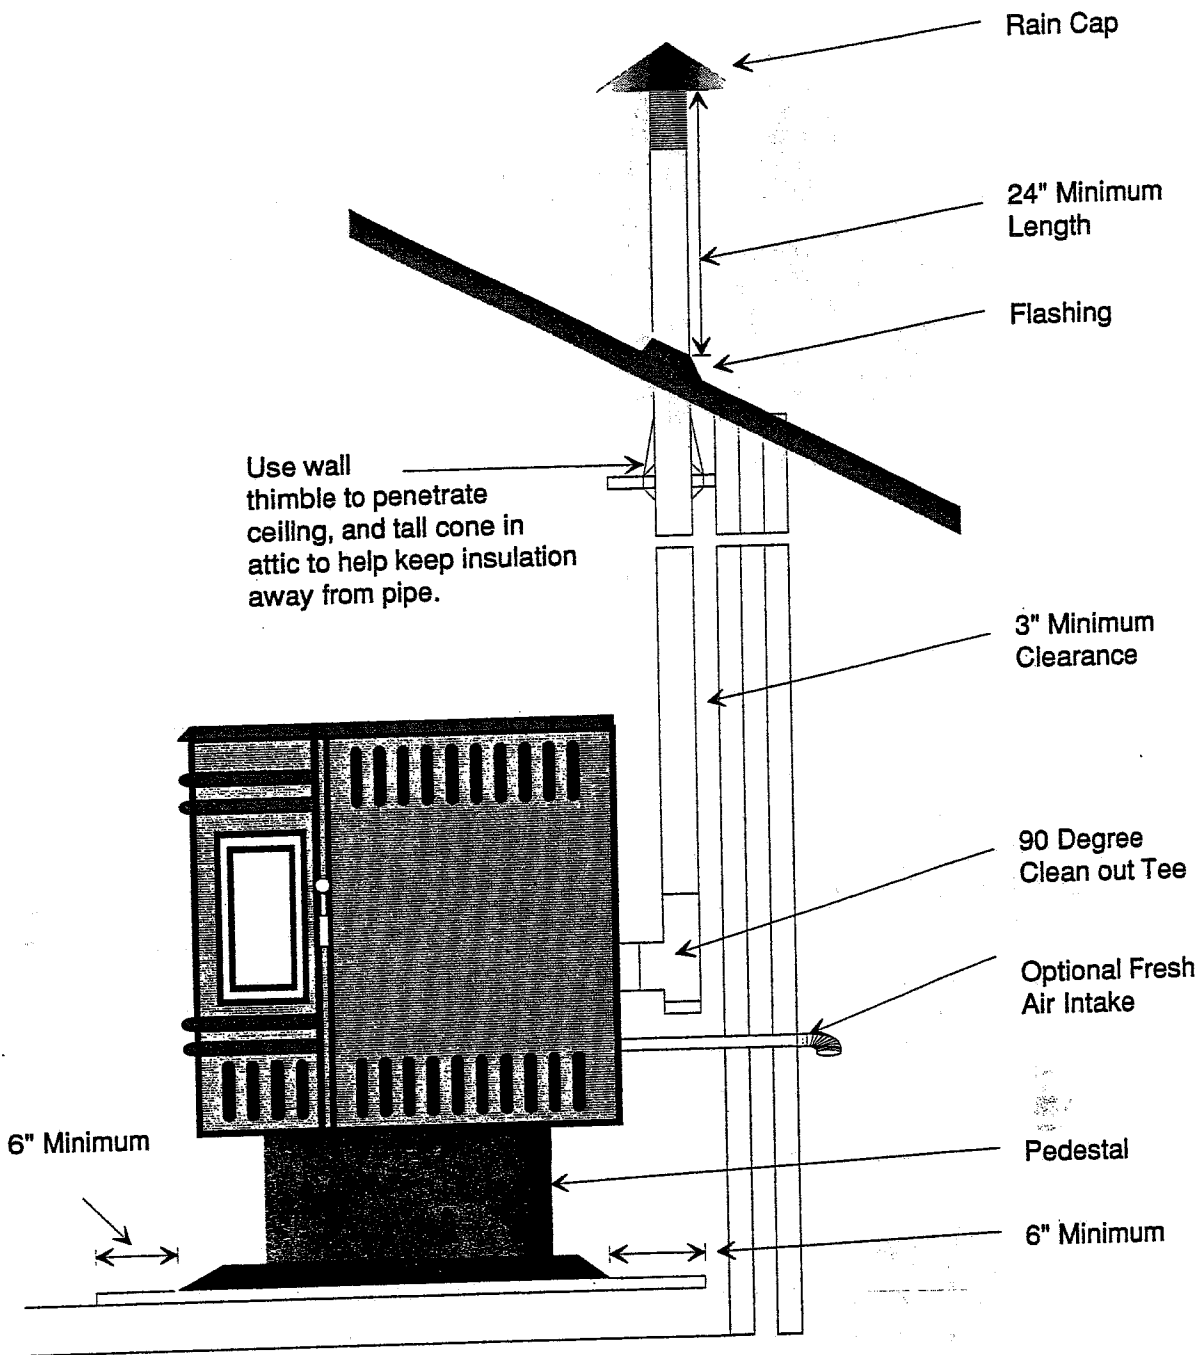

Figure 20
- A 3" single-wall, stainless steel flexible or rigid exhaust pipe should be used for INSERT installations and must be attached to the stove with a single or double wall, stainless 'tee' with a clean-out cap. The stainless steel 'tee' can be inclined at 45 degrees to enable the vent to be centered on the stove, and allows the 'tee' to be cleaned out without removing the stove (see Figure 20 on page 18).